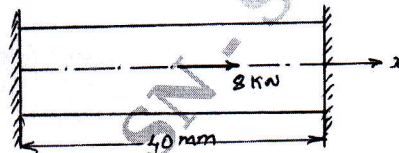

Fig. Q1 (c)
- c. Find the displacement at the mid point of a bar shown in FigQ1 (c), using Rayleigh Ritz method. Given  $E = 70 \times 10^3 \text{ MPa}$ ,  $A = 100 \text{ mm}^2$ . Use 2nd order polynomial displacement model. (10 Marks)